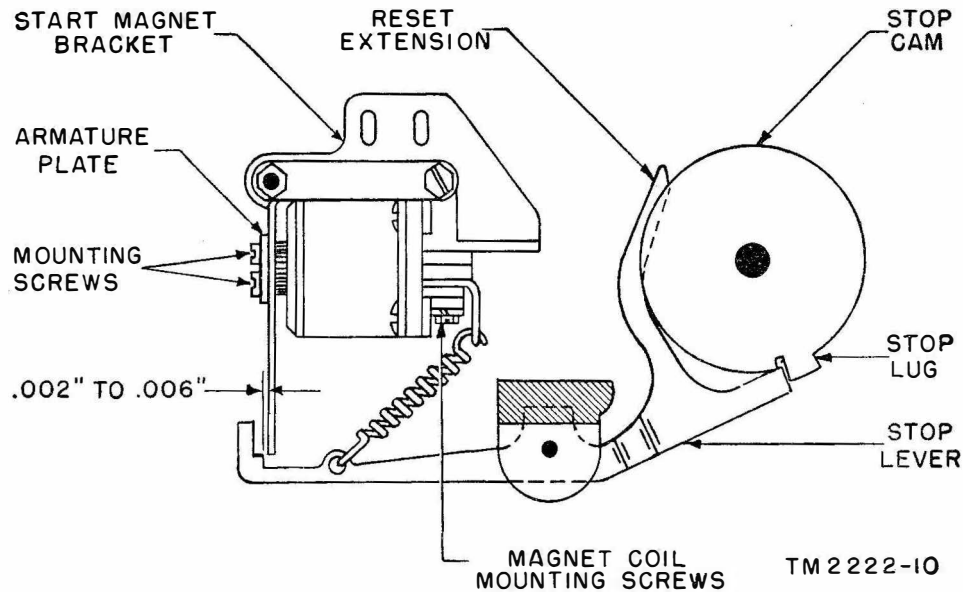

Figure 52. Magnet core (receiving transmitter distributors) requirements.
(fig. 52)
b. When the type of stop cam lugs shown in B, figure 54 is against the end of the stop lever shown figure 52, the bottom edge of the stop lever should be flush with or not more than .010 inch above the bottom edge of the lug on the stop cam. The stop lever should be free in its bearings, but it should not have perceptible play. To adjust, loosen the stop lever pilot screw locknuts and position the stop lever. Tighten the locknuts.
### 98. Start Magnet Bracket Adjustment (Receiving Transmitter Distributors) (fig. 52)